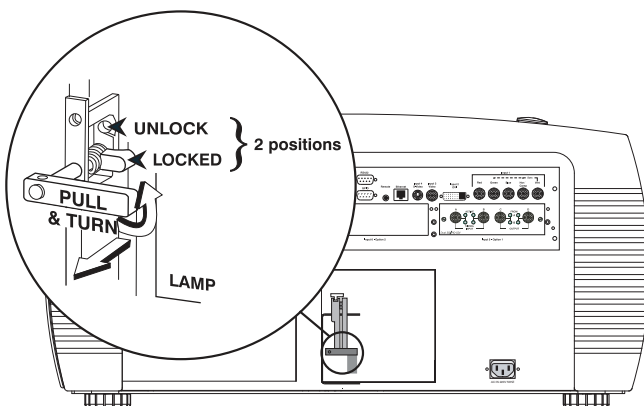

Figure 5-2. Unlocking the Lamp
3. Pull (out) and turn the lamp lock lever, which is located to the left of the lamp module, a quarter turn counterclockwise to the "unlock" position (Figure 5-2).